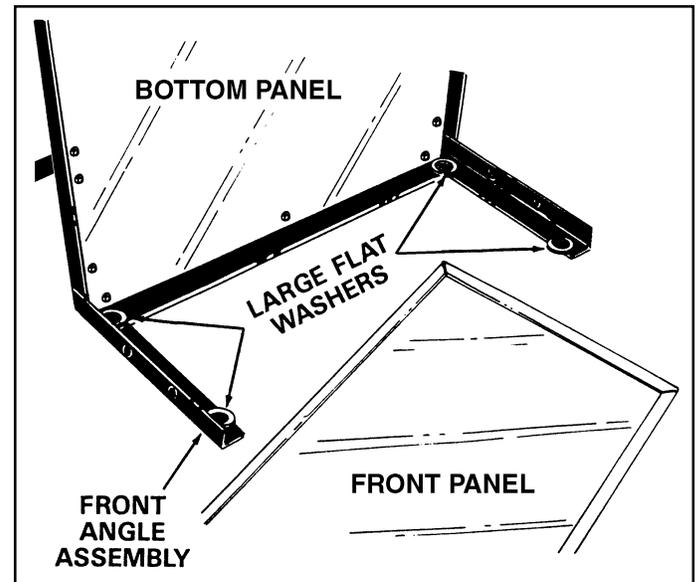

FIGURE 5
- Stand the cart on end with the front angle assembly down on the floor. Temporarily place the four large $1-1/2"$ dia. flat washers (axle washers) on the inside of front angle assembly. See figure 5.